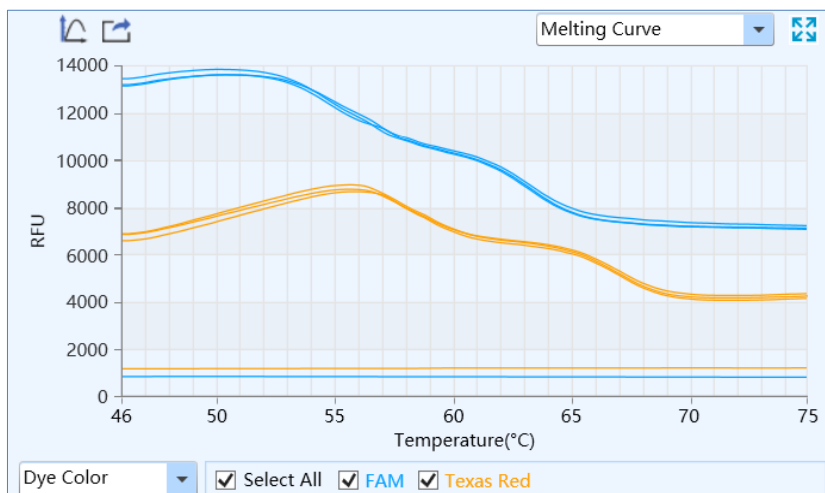

Figure D-13.1. Melting Curve Analysis Interface - Melting Curve Functional Module
I. **Melting Curve:** display the fluorescence intensity against the temperature, as shown in figure D-13.1.